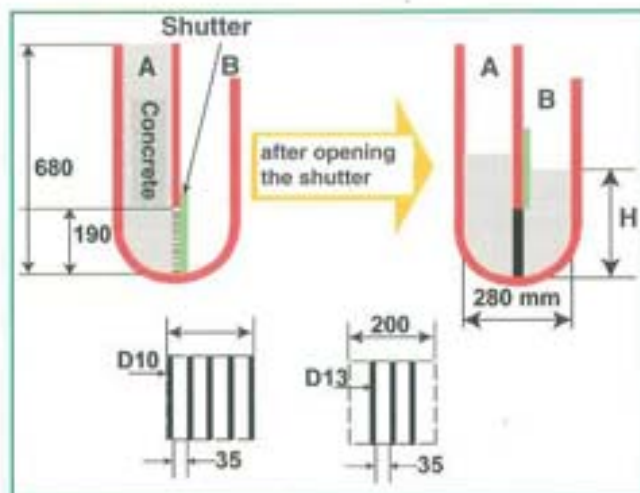

Fig. 4. U-box.
U-box (Fig. 4).
The test consists of measuring (Fig. 4) the height (H) of the concrete in